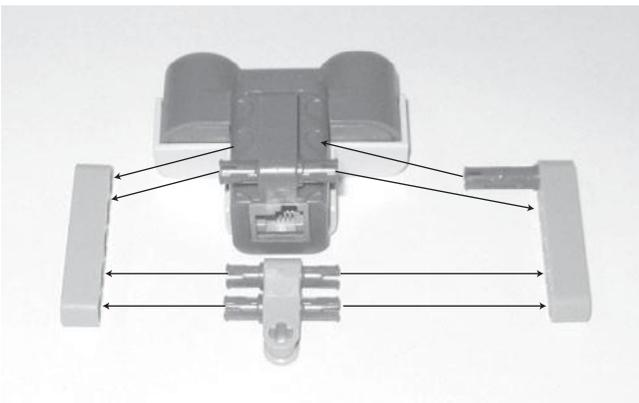

Figure 12.18
Step 1: Take two 5M straight beams, two 3M connector pegs with friction, a 3M cross block, and the ultrasonic sensor and connect them, as shown in Figure 12.18.